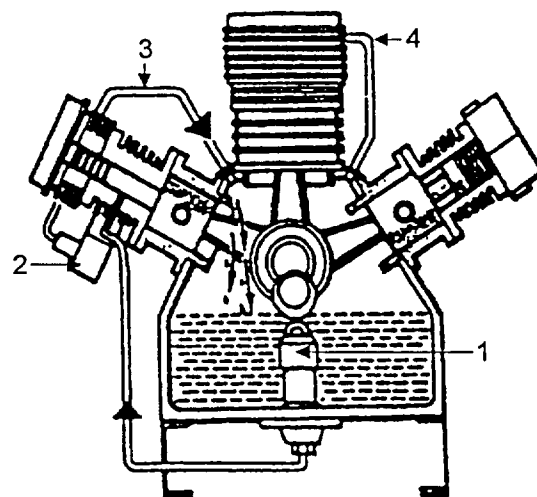

FIGURE 3-3. COMPRESSOR OIL SYSTEM
The third stage is force lubricated by a pump (Figure 3-3, Item 1) operated by a cam of the crankshaft The oil pressure regulator valve (2) maintains the proper working pressure Any oil not needed by the third stage is returned to the crankcase through the feedback tube (3). Other moving parts of the compressor are lubricated with oil splashed by the crankshaft Cylinders of the first and second stages receive additional lubrication from oil vapors from the crankcase vent feedback line (4).